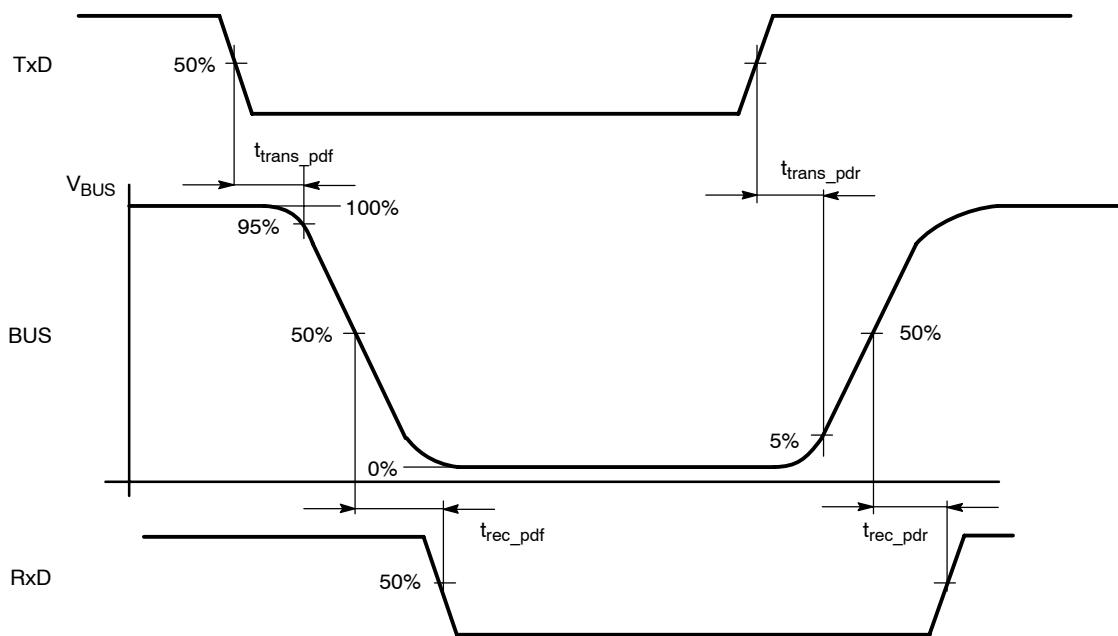

Figure 2. Input/Output Timing
- 12. See Figure 2 – Input/Output Timing.